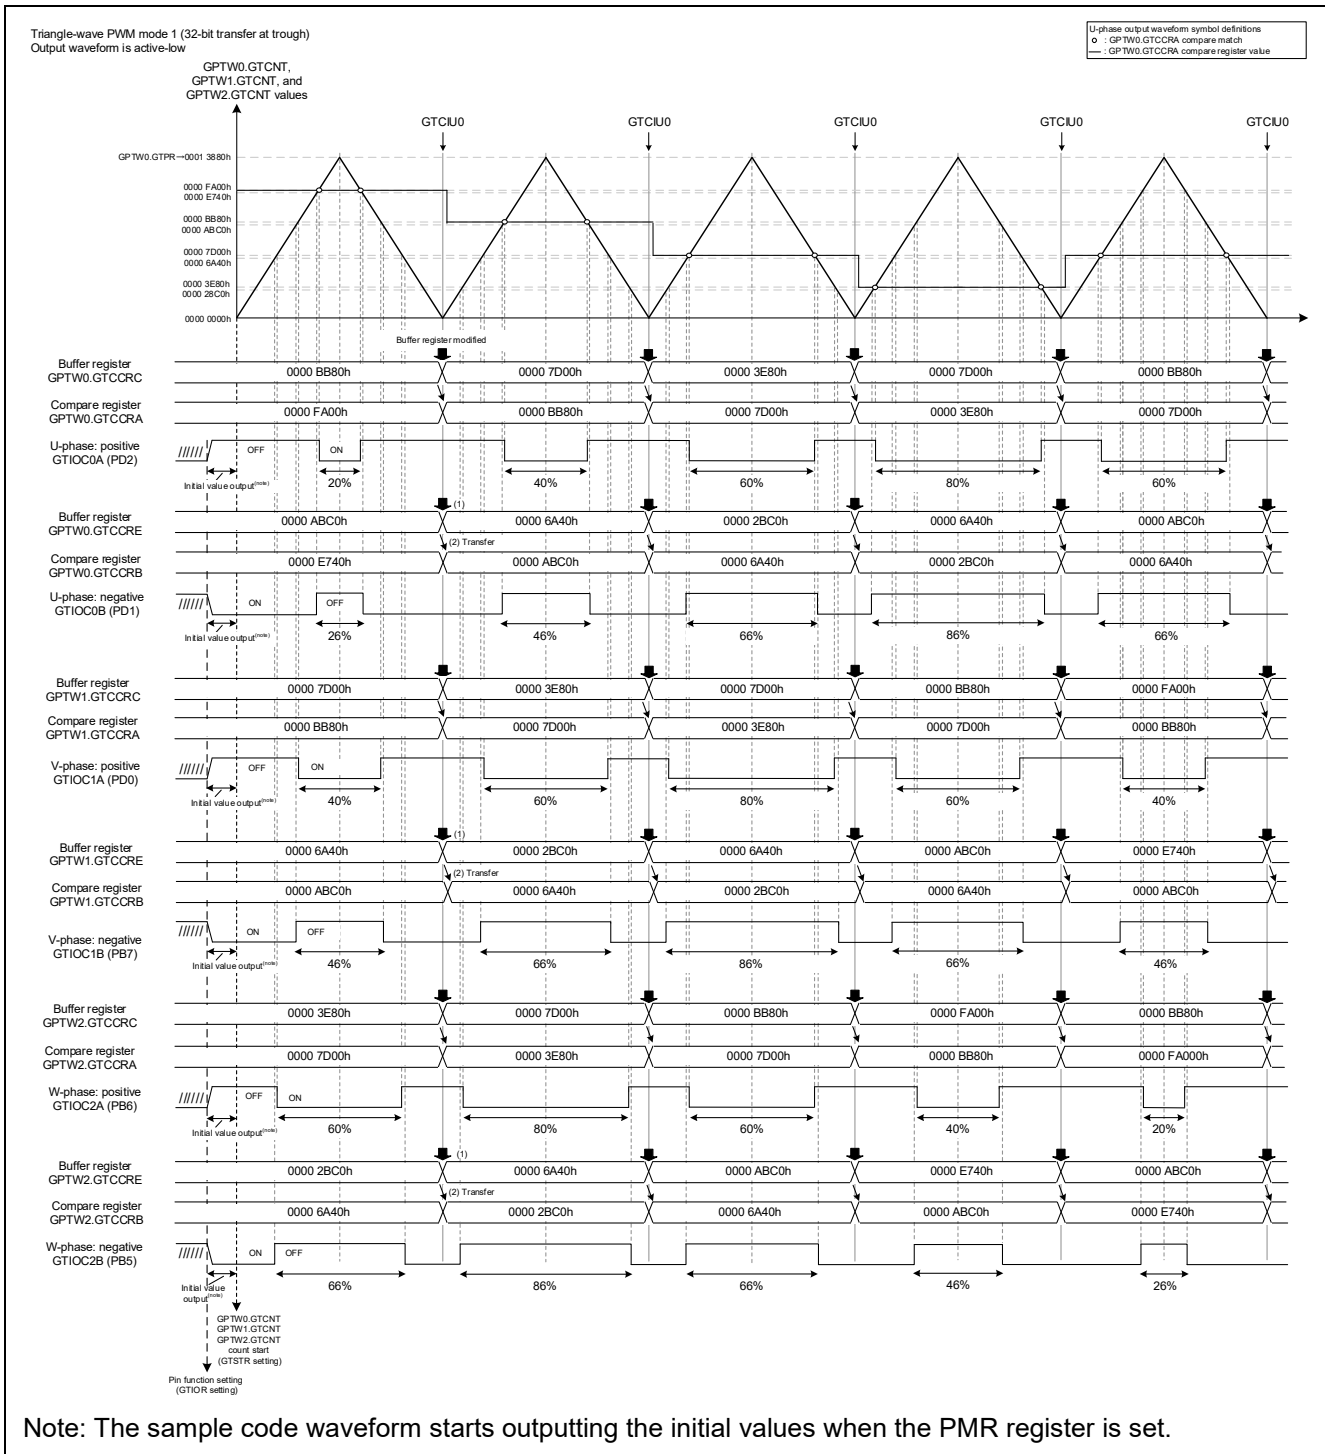

Figure 4.52 When Automatic Dead Time Setting Function is Not Used (Triangle-wave PWM Mode 1)
Figure 4.52 shows an example of operations when the automatic dead time setting function is not used (GTDTCR.TDE bit is 0).
Similar to the positive-phase, in the negative-phase the compare value is updated with every cycle by modifying buffer register GTCCRE ((1) in Figure 4.52) and transferring from the buffer register to compare register GTCCRB ((2) in Figure 4.52) when a GTCNT counter underflow occurs (trough).